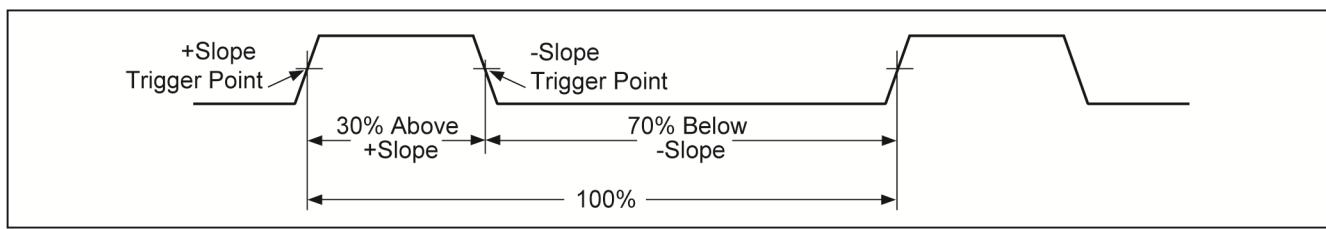

Figure 9. Components of Duty Cycle Measurements
To measure frequency, connect the Product to the signal source. Next, push **Hz %**. When you push , the trigger slope switches between + and -, as shown by the symbol at the left side of the display (refer to Figure 9 under "Duty Cycle"). Push **AutoHOLD** to stop and start the counter.
Duty cycle (or duty factor) is the percentage of time a signal is above or below a trigger level in one cycle (Figure 9). The duty cycle mode is optimized to measure the on or off time of logic and switching signals. Systems such as electronic fuel injection systems and switching power supplies are controlled by pulses that have different widths, which can be measured by a duty cycle measurement.
2. Push **Hz %** a second time to measure the signal's duty cycle. Push **|||||** to select a measurement of the signal's positive or negative pulse, refer to Figure 9.